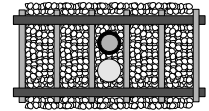
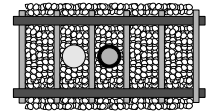
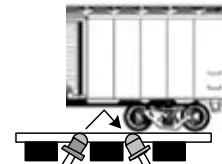

Figure 7a
Figure 7b
Figure 7c
**Despite the use of infrared components you could still encounter false triggering from overhead lighting. This is usually eliminated with angled sensor mounting (Figure 7c) and/or proper sensor sensitivity adjustment (page 4). This version of the Signal Animator must be powered from either a 7-9V AC or 9-12V DC power source. Do NOT exceed these limits!** Whenever the sensor is activated by any portion of a train the signal will turn red. Once the sensor is cleared the *Signal Animator* will delay (10 or 30 seconds; see below) and then change the signal to yellow. After another delay the signal will be changed to green.
The IR components should be mounted between the rails. Drill two 11/64” holes, approximately 1/4” apart, through the ballast, roadbed, and sub-roadbed. For the smaller scales this drilling may end up hitting the ties. Take your time so you don’t mangle them! Figure 7a illustrates the suggested placement of the IR components between the rails; you may also locate them a tie apart from each other (Figure 7b). Insert the leads of one IR emitter (white and black wires) into one of the holes (it doesn’t matter which one!) from the top of your layout. Repeat for the IR detector (blue and black wires). The tops of the components should sit no higher than the top of your ballast for optimal IR performance; in some cases (e.g. false triggering) it may be necessary to locate the components a little below the ballast line. You can extend the leads with similar (or larger) wire. We recommend soldering and insulating these connections. Once you have wired the IR components and verified their operation you may wish to put a dab of white glue or silicone caulk where the wires exit the holes underneath the layout. This will help to hold the components in place; make sure you don't get any substance (e.g. ballast or glue) on the top surface of the IR components as this may prevent them from operating properly. **Figure 7c is a variation of Figure 7b. In this case the IR components are mounted at an angle to each other. The benefit of this method is reduced false triggering from overhead light and increased detection reliability in smaller scales or irregular bottoms on rolling stock.**